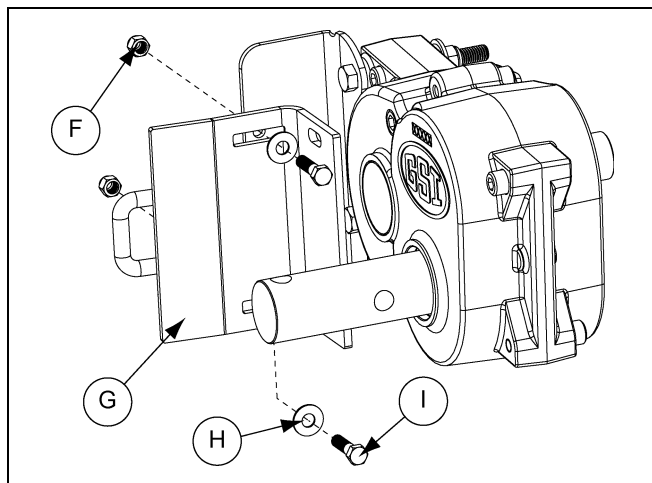

Figure 4AT
2. Attach the mounting bracket to the housing bracket using two (2) 3/8" x 1-1/2" grade 8 bolts (I), two (2) flat washers (H) and two (2) nylock nuts (F). (See Figure 4AT.)